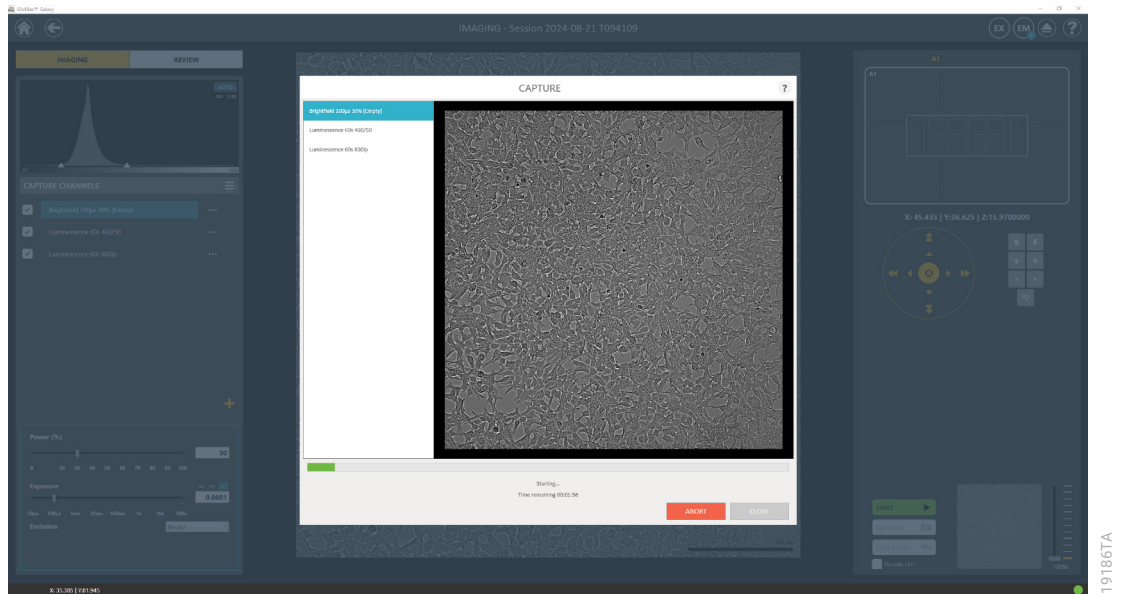

Figure 28. 'Capture' pop-up window.
4. During a capture, a pop-up window will show the elapsed and remaining capture time and will display images as they are captured. Select the tabs for different channels on the left side of the window to toggle and view the respective images (Figure 28).